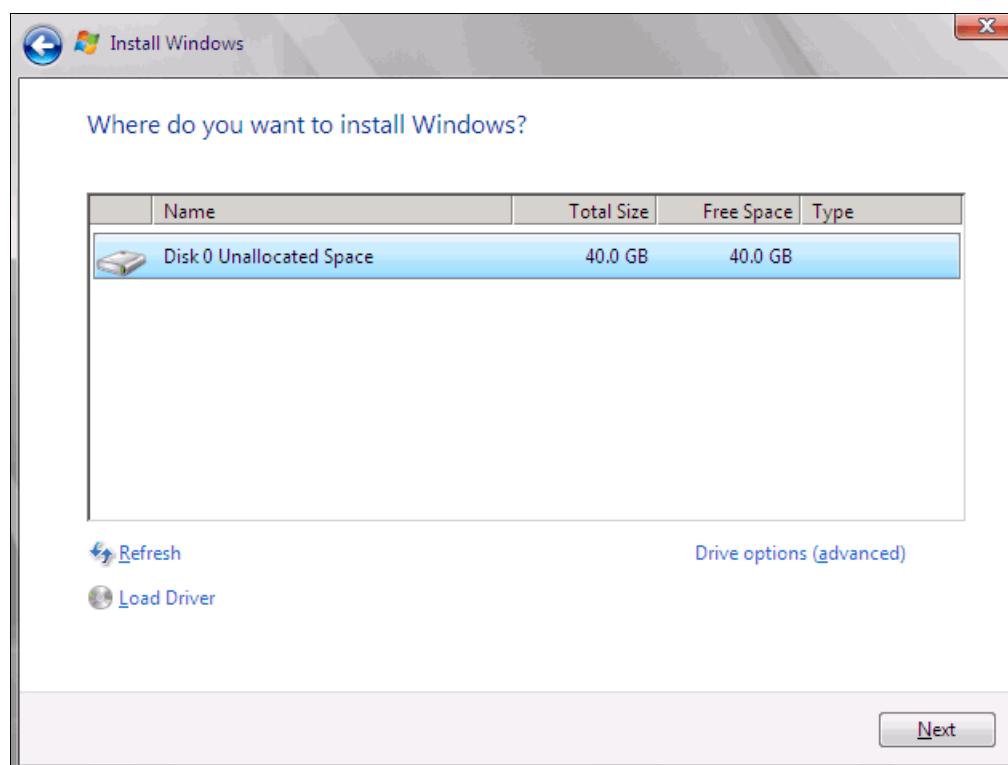

Figure 9-147 Selecting the disk to install on
17. In the “Where do you want to install Windows” panel (Figure 9-147), when you see your LUN, select the disk, and then click **Next**.